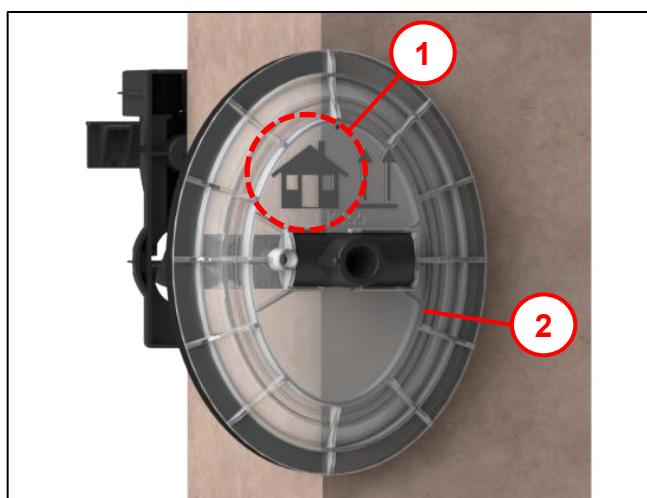

Fig. 20
- Place the foam pipe with outside flange with foam tape (1) into the core hole and insert it as far as the beginning of the snap lug (Note Fig. 20).
Continue with Fig. 20